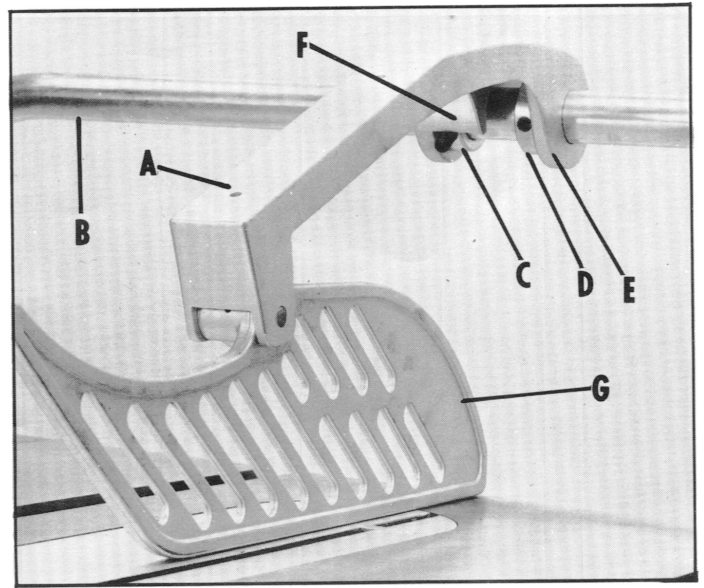

Fig. 18
7. With the support arm (B) set to the right, place the basket assembly (A) and the two collars (C) and (D) on the support arm. Collar (C) should have the long set screw and collar (D) should have the short set screw. Position the basket assembly (A) so the bottom of the basket (G) is safely clear of the saw blade as shown in Fig. 18. When this is done, move collar (D) against the casting (E) and tighten set screw in collar (D). Then move collar (C) against the other end of the casting (F), as shown in Fig. 18, and position the long set screw in collar (C) so that it is almost touching the edge of the casting (F). This will let the basket (G) Fig. 18, rest on the table without interference and also become a stop when the basket arm is raised.